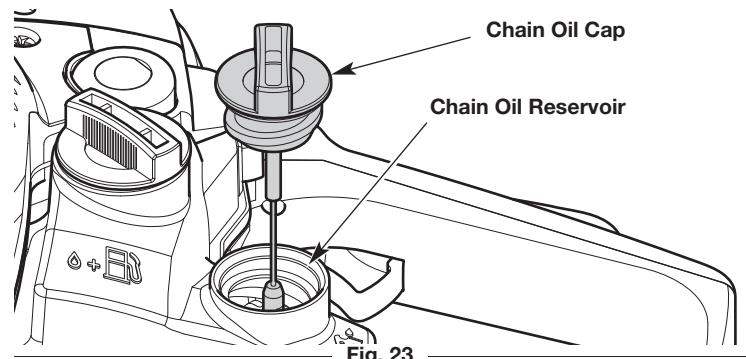

Fig. 23
3. Unscrew the chain oil cap (Fig. 23).